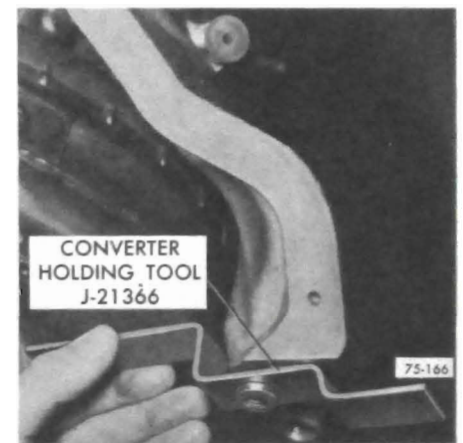

Figure 75-47
2. Remove converter Holding Tool J-21366. See Figure 75-47.